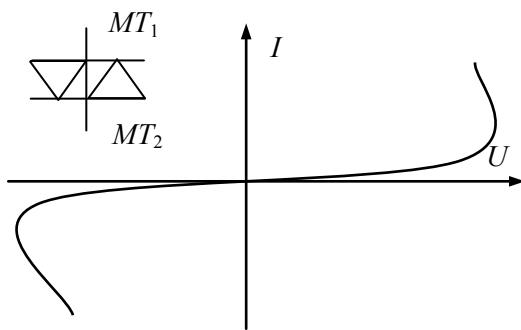

Fig. 1.52
**Diac.** A *diac* is a bi-directional diode that can be triggered into conduction by reaching a specific voltage value. General Electric introduced this term as a “diode ac semiconductor device”. It functions as two parallel Shockley diodes aligned back-to-back. The diac can pass current in either direction. Its equivalent circuit is a pair of non-controlled reverse-parallel-connected thyristors. The crystal structure of this device is the same as a *pnp* transistor with no base connection. The current-voltage characteristic and a symbol of a diac are shown in Fig. 1.52. A diac has neither an anode, nor a cathode. Its terminals are marked as  $MT_1$  (main terminal 1) and  $MT_2$  (main terminal 2). Like a rectified diode, every diode of a diac conducts the current in one direction only after the knee voltage exceeding. Once the diac